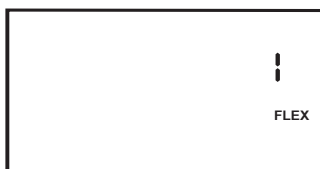

Figure 6–8 Flex Setting Screen
1. From either the Monitoring or Standby screens, press the Right User button. The Flex Setting screen appears, as shown in Figure 6–8.